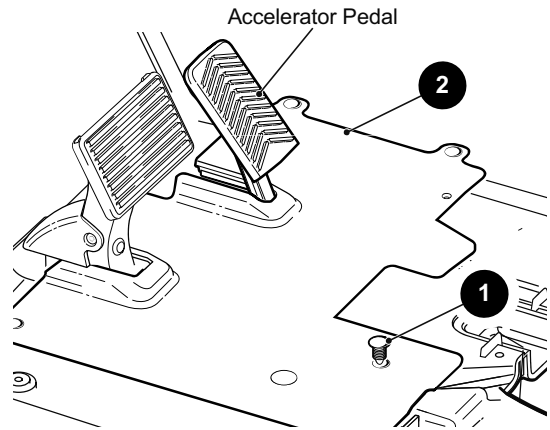

Figure 5 Accelerator Pedal Access
To access the accelerator cable at the accelerator pedal, remove the upper rocker panels, the lower rocker panels and the floor mat. Remove four ratchet rivets (1) securing the pedal cover (2) to the floorboard and remove the cover from the pedal area (Figure 5).